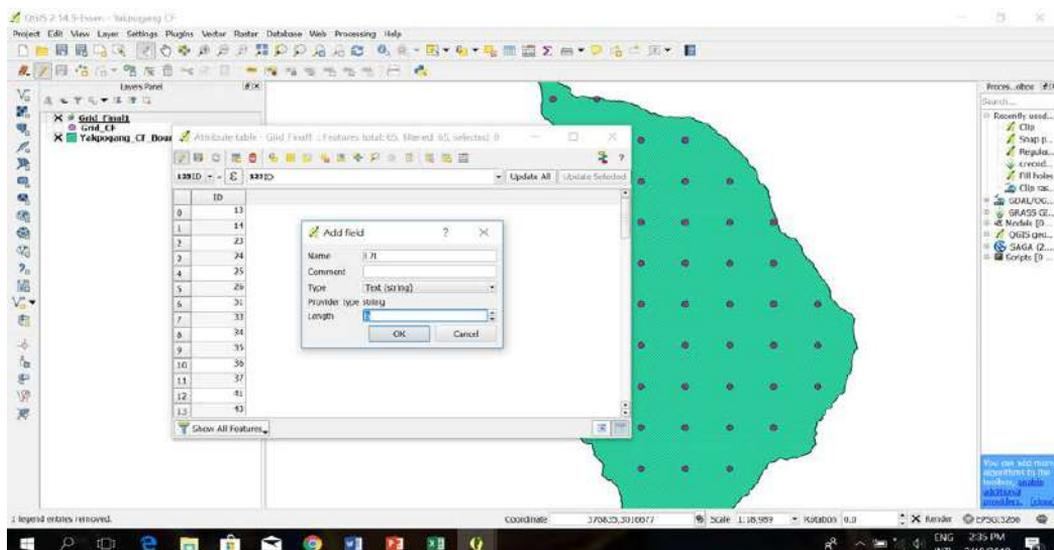

Figure 10a
- Create three new fields named L2L (line to line), P2P (Point to Point) and Plot ID in the attribute table as shown in the Figure 10a by using add field window.